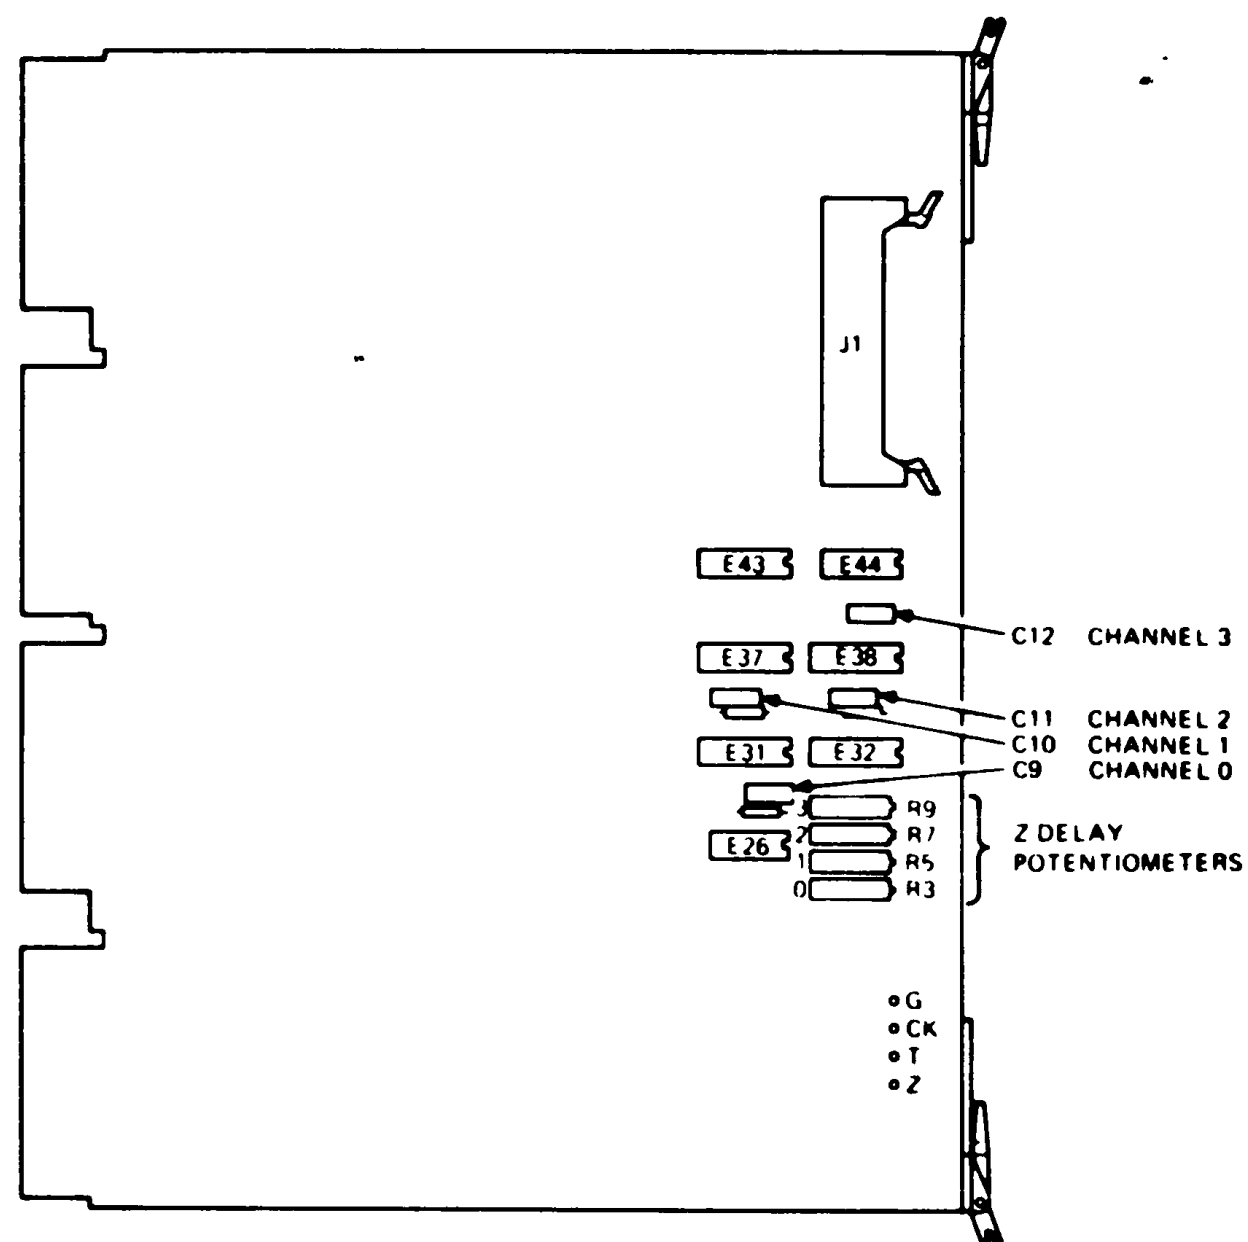

Figure 6-1 Z Delay Adjustment Potentiometers (on the M8036)
- 9 Find the Z-delay potentiometer on the M8036 module for the camera selected (Refer to Table 6-1 and Figure 6-1)
For correct operation, the trailing edge of the signal at TPZ on the M8036 must occur at least 1.1 μ s after the trailing edge of the USB (Z) signal from the camera. In the NCV11 the Z-delay pulse width adjustment range is 0.15 to 2.0 μ s. With some cameras a pulse width greater than 2 μ s is required. To increase the adjustment range, change one capacitor, C9, C10, C11, or C12, on the M8036 module for camera channel 0, 1, 2, or 3, respectively. See Table 6-2 for the value of the capacitor to install on the module. Figure 6-1 shows the location of the capacitors.
- 7 Adjust the Z-delay potentiometer on the MM036 module for 1.1 μ s (Refer to Table 6-1 and Figure 6-1).